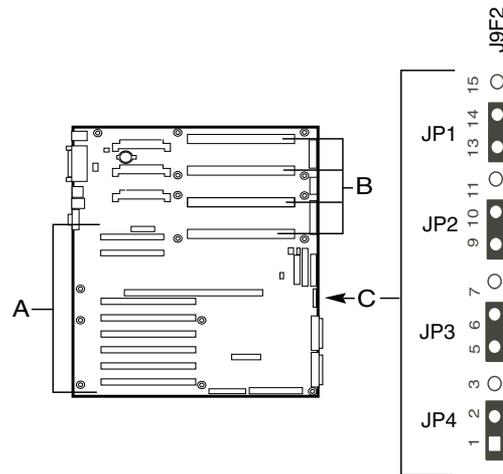

Figure A-2 Baseboard Configuration Jumpers
One 15-pin, one 11-pin, and one 3-pin single inline header provide a total of eight 3-pin jumper blocks that control various configuration options. The jumper locations are shown in Figure A-2. The shaded areas show default jumper placement for each configurable option.
5. Locate the configuration jumpers at the edge of the baseboard next to the memory expansion card connector (MECC). See Figure A-2 on page 131 for the location of the configuration jumpers.